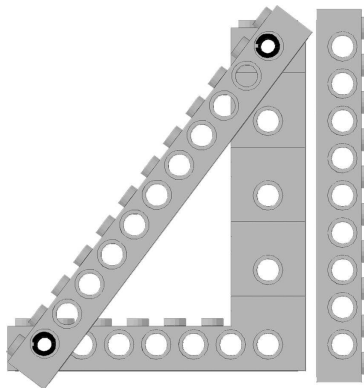

Figure 4: Using Pythagoras' Theorem for Diagonal Bracing
- **Diagonal Bracing.** Triangular trusses will only work if the number of nubs (FLUs) in the beam conform to Pythagoras’ theorem. Using Pythagoras’ theorem not only leads to stronger bracing, but also saves beams. For the purposes of LEGO, this means that the only useful combinations are 3-4-5, 5-12-13, and 6-8-10 (Figure 4).